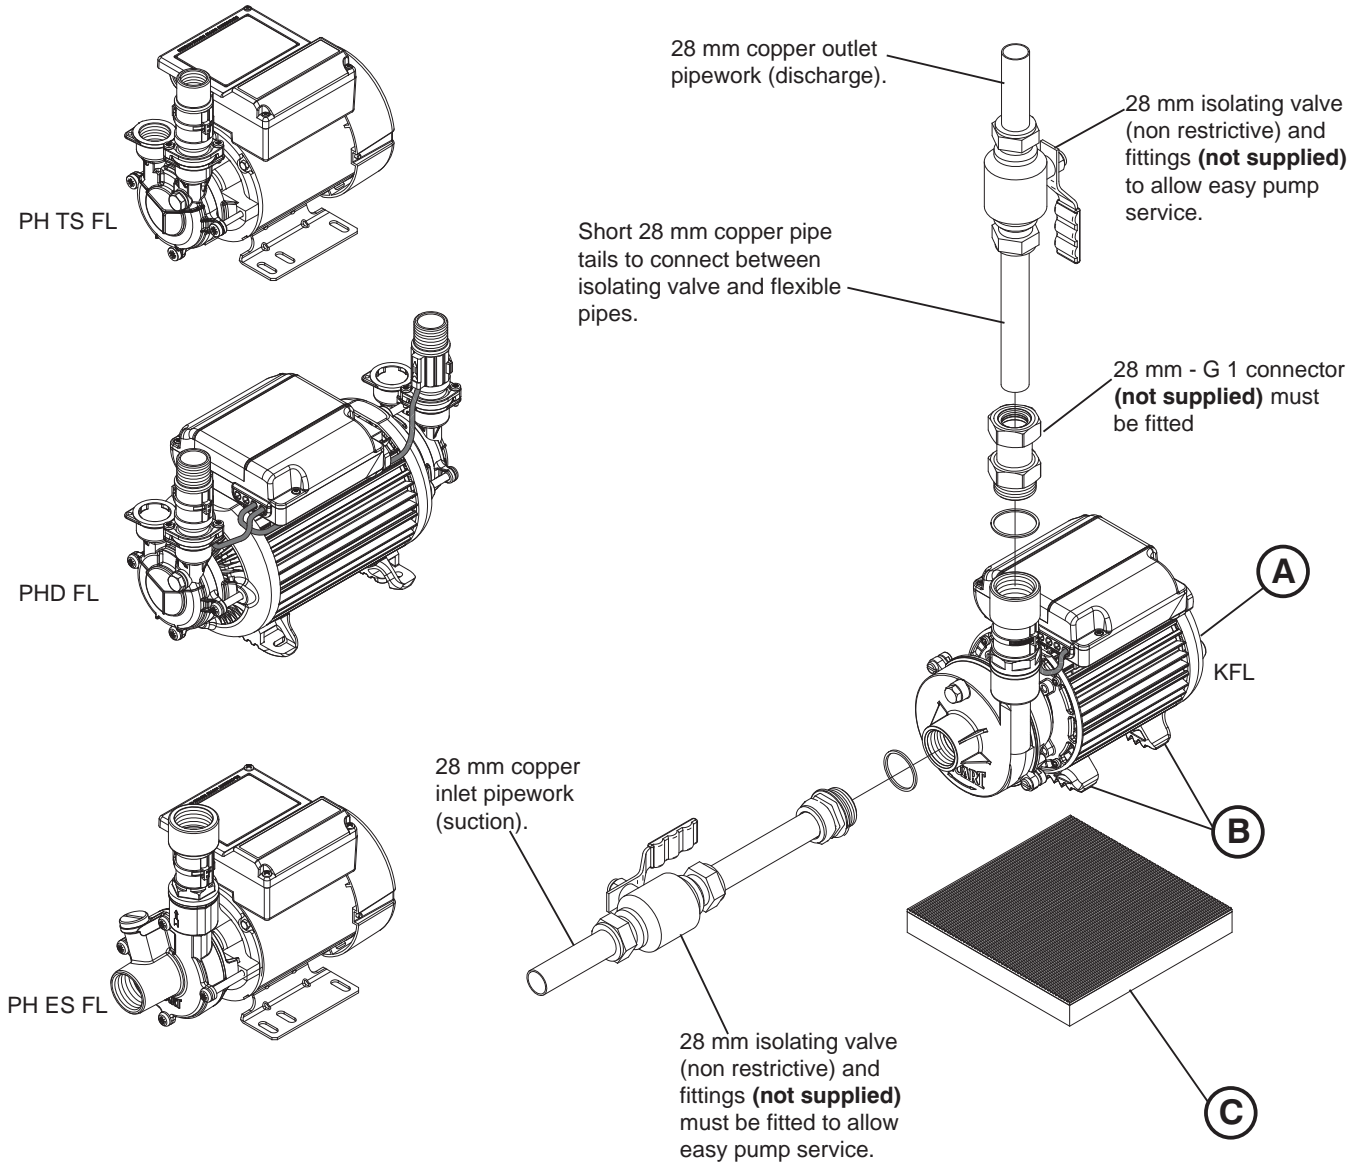

Fig. 1
3.11 **Pump to pipework:** Connect the pump to pipework using a G1 to 22 mm connector as shown in Fig. 1.